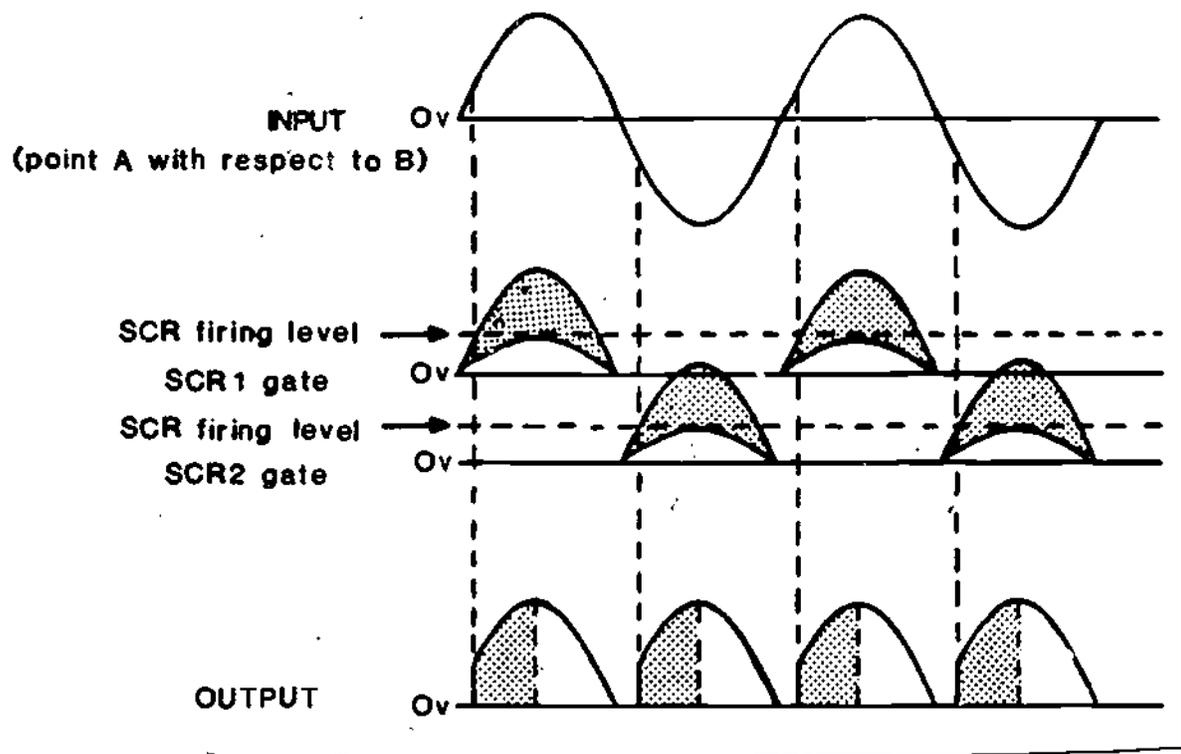

Figure 21
27. The input output waveforms for the SCR bridge type power supply previously discussed are shown in Figure 21. Study the output waveform and notice the wide range of outputs which are possible due to the variation of signals by changing the setting of R2 and R3. (Variations shown shaded)